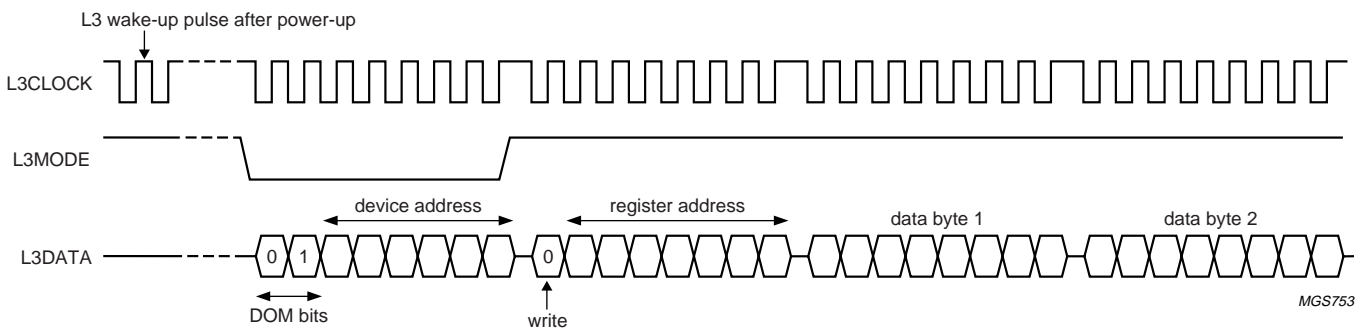

Fig.6 Data write mode (for L3-bus version 2).
The address mode is used to select a device for a subsequent data transfer. The address mode is characterized by L3MODE being LOW and a burst of 8 pulses on L3CLOCK, accompanied by 8 bits (see Fig.6). The data transfer mode is characterized by L3MODE being HIGH and is used to transfer one or more bytes representing a register address, instruction or data.
Remark: when the device is powered-up, at least one L3CLOCK pulse must be given to the L3-bus interface to wake-up the interface before starting sending to the device (see Fig.6). This is only needed once after the device is powered-up.
1. Addressing for write data: bit 0 is logic 0 indicating a write action to the destination register, followed by bits 1 to 7 indicating the register address (see Fig.6)
The data write mode is explained in the signal diagram of Fig.6. For writing data to a device, 4 bytes must be sent (see Table 6):